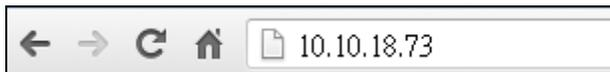

Figure 4-22: IEI iMAN Web Address
- Step 2:** On the remote management console, open a web browser. Enter the managed system IP address in the web browser (**Figure 4-22**).